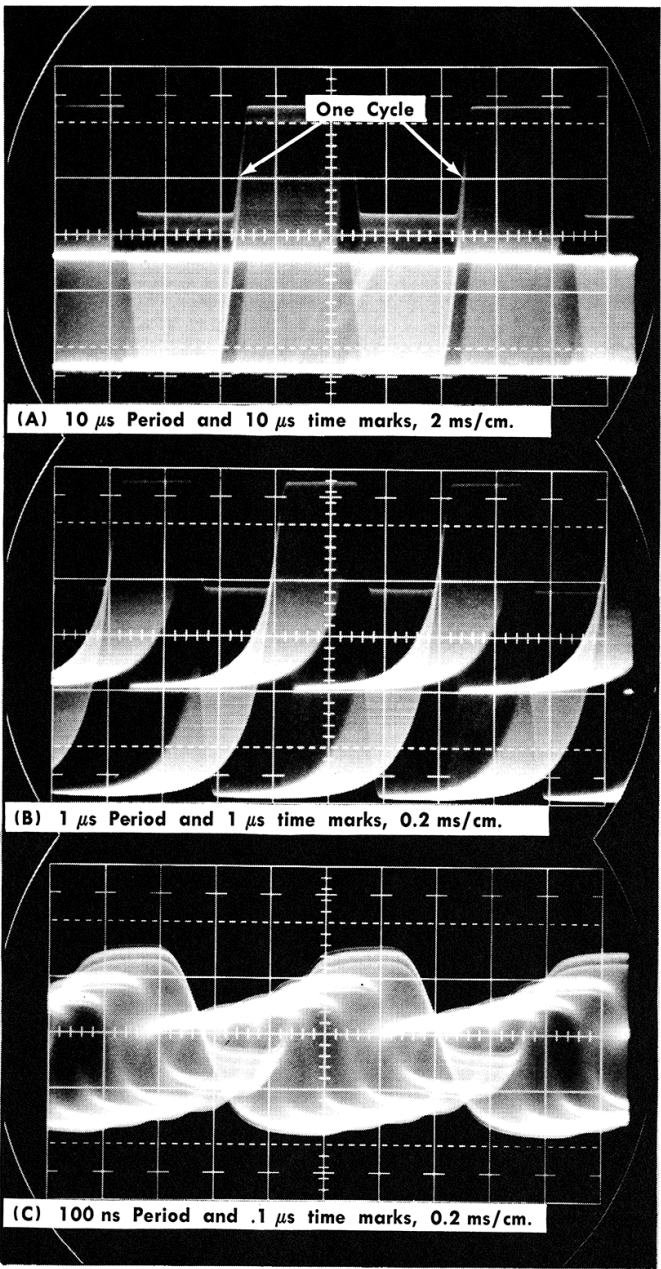

Fig. 5-4. Typical displays of beat frequency.
- e. Set the Type 284 PERIOD switch to 10 μs and set the Time Mark Generator for 10 μs time markers. Internally trigger the test oscilloscope on the beat frequency displayed. Fig. 5-4 shows the typical displays.